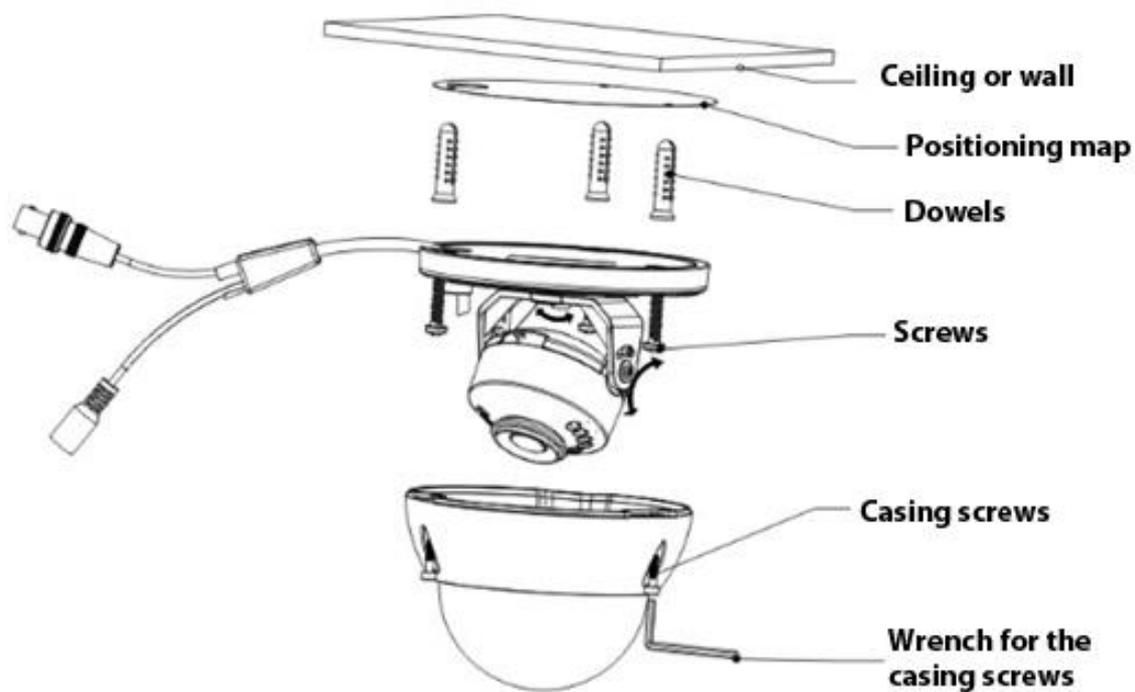

Figure 3-1 GEODOME – LE 338HD Installation
- If you want to lead the cables out of the side of the camera, please make sure that the cable exits via the cable exit at the side of the camera as shown in figure 3-1.